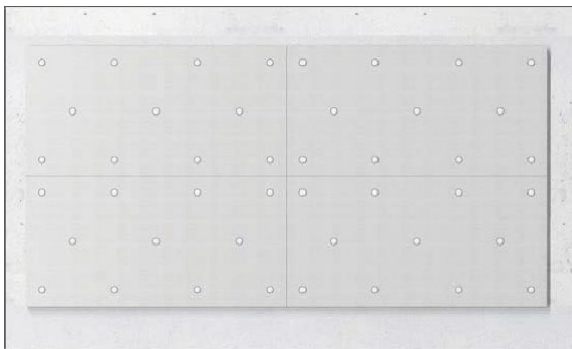

Figure 1.2. Board joints aligned. Fastener pattern (11 fixings per board)
- Use two rows of 4 fasteners along the length, between 50 to 150mm from edge of the board; and 3 fasteners along the middle in an offset position from the exterior rows of fasteners as shown in figure 1.2.
- The board joints can be staggered or aligned as shown in Figures 1.2 and 1.3. Repeat steps to install the board in a continuous layer on the underside of the concrete soffit.